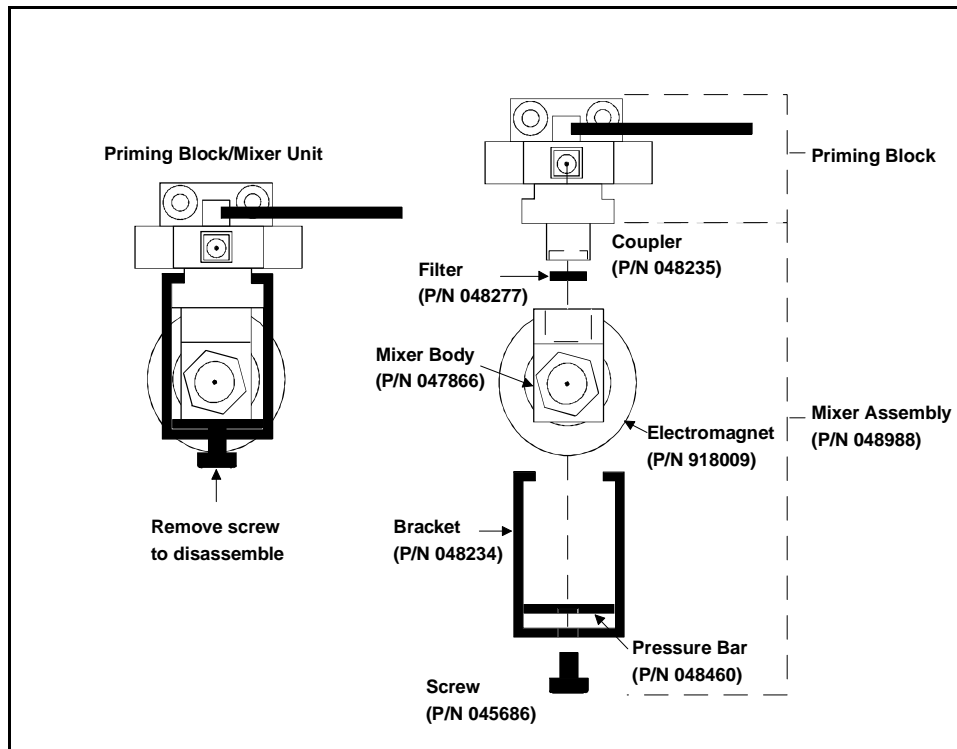

Figure 5-9. Active Mixer Assembly
6. Remove the screw (P/N 045686) from the bottom of the mixer bracket (P/N 048234) (see Figure 5-9). This screw secures the mixer to the priming block.